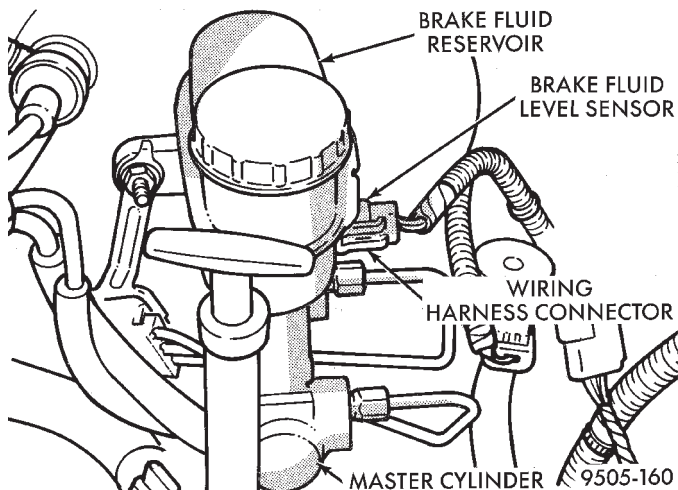

Fig. 84 Master Cylinder Fluid Level Sensor
(1) Remove vehicle wiring harness connector from brake fluid level sensor, in master cylinder brake fluid reservoir (Fig. 84).